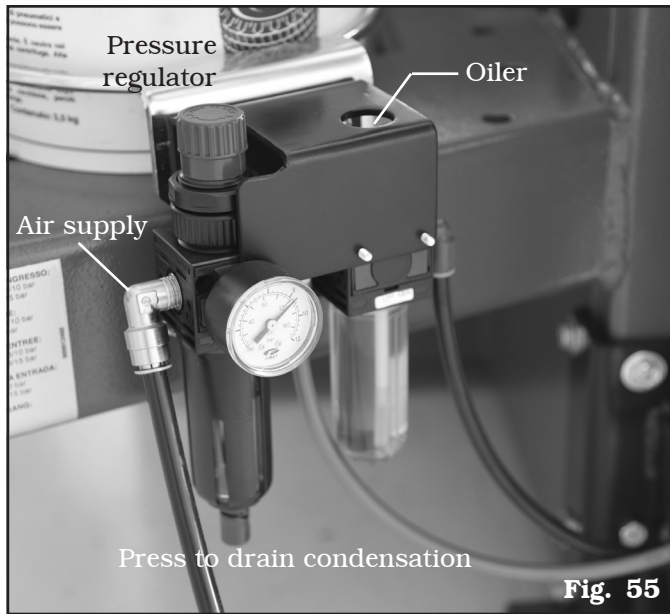

Fig. 55
- The condensation in the pressure regulator reservoir must be drained **daily**. Press the connector at the bottom of the regulator to discharge the water. (see **Fig. 55**).